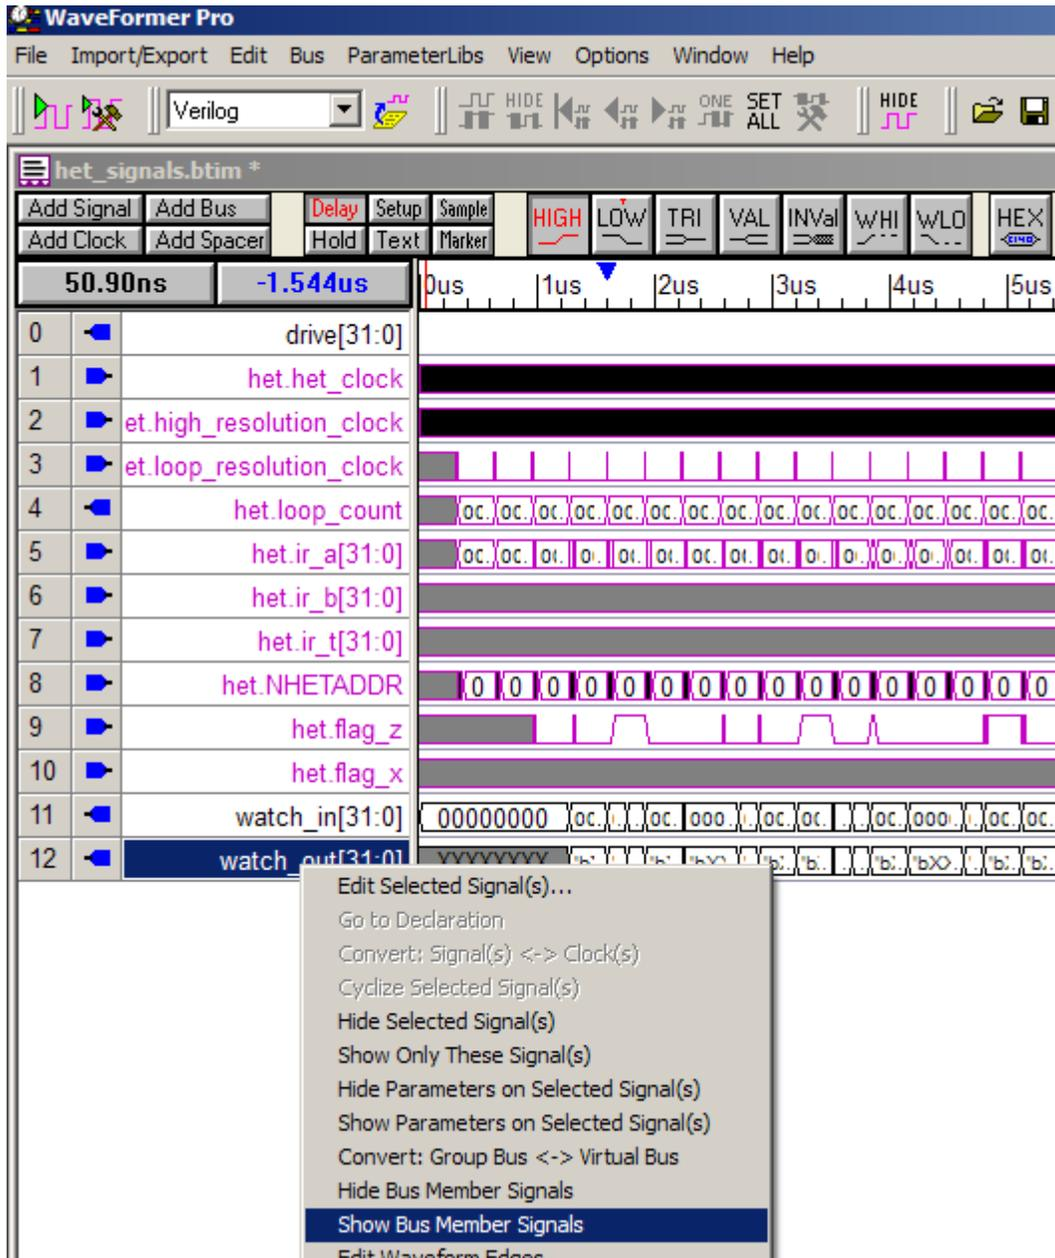

Figure 50. Expanding the watch_out[31:0] Bus to View Individual Signals
- Expand the 'watch_out[31:0]' bus by right clicking on the signal name and selecting 'Show Bus Member Signals' (see Figure 50).